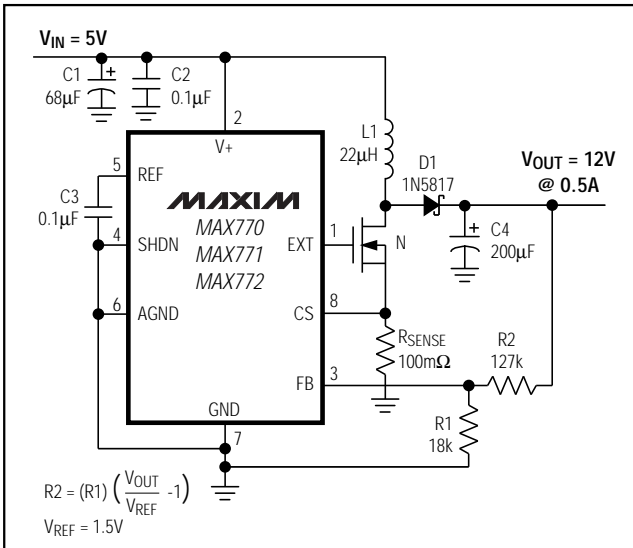

Figure 2c. 12V Output, Non-Bootstrapped
**Note: When using the MAX770/MAX771/MAX772 in non-bootstrapped mode, there is no preset output operation because V+ is also the output voltage sense point for fixed-output operation. External resistors must be used to set the output voltage.** Use 1% external feedback resistors when operating in adjustable-output mode (Figures 2c, 2d, 3b, 3d, 3e) to achieve an overall output voltage accuracy of ±5%. The MAX773 can be operated in non-bootstrapped mode without using external feedback resistors because V+ does not act as the output voltage sense point with preset-output operation. To achieve highest efficiency, operate in bootstrapped mode whenever possible.